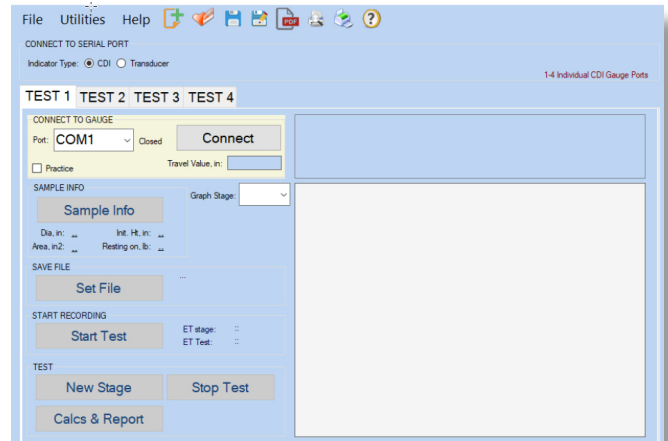
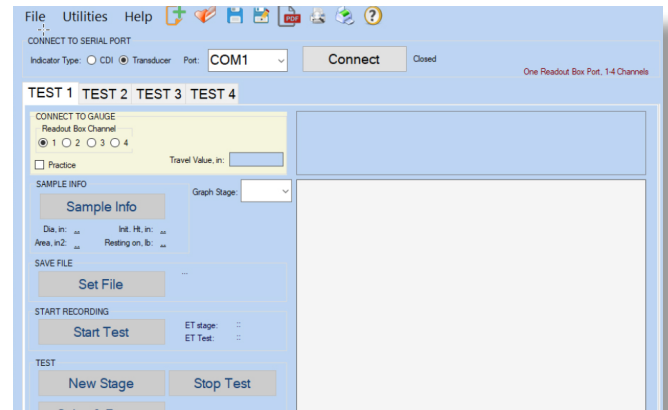

Figure 4: Establishing a Connection to a Digital Dial Indicator
Figure 5: Establishing a Connection to a Data Readout Box
- c. Select the Indicator type, CDI for a digital dial indicator (Figure 4) or Transducer for a Displacement Transducer (Figure 5). When using a data readout box, **Readout Box Channel** must be selected.